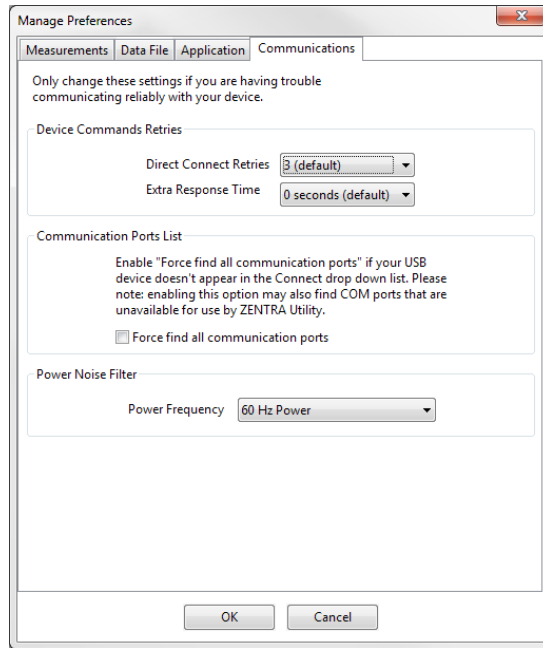

Figure 16 Communications tab
• Communications tab (Figure 16):